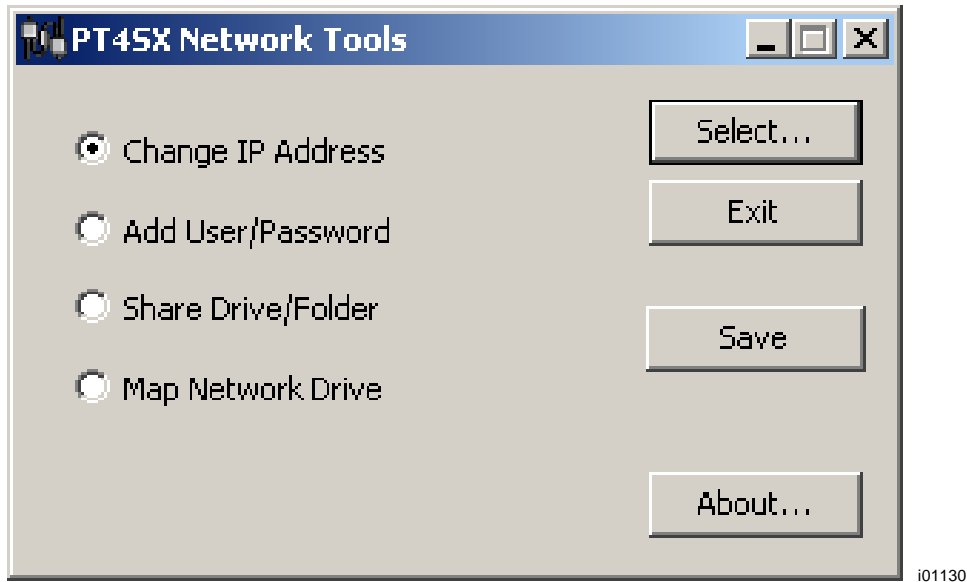

Figure 13.12.5 The PT4SX Network Tools box.
1. Press the SYS Hardkey, then the Config Net softkey. The PT4SX Network Tools box appears. See Figure 13.12.5.
6. Once complete, you must now save all changes made. To do so, simply click on the Save button at the network utility window. See figure 13.12.5
There are a handful of utilities on the ProtoTRAK SX in order to aid network set-up for Network Administrators or experienced users. To access these utilities, press the SYS hardkey on the ProtoTRAK SX, then press the Config Net softkey. See Figure 13.12.5 above.